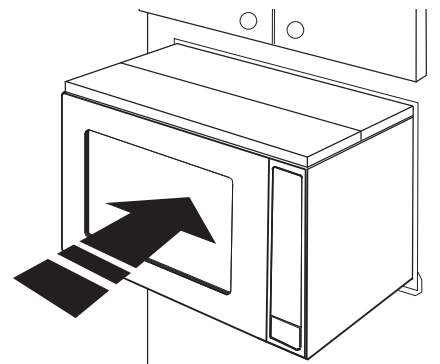

Figure 7
B. CABINET INSTALLATION: Place the oven adjacent to the wall or cabinet opening. Plug the power cord into the electrical outlet. Carefully guide the assembled oven into the prepared opening. Slide the oven on the Bottom Duct assembly. See Figure 7.